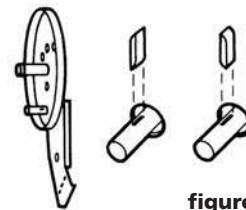

figure 7
- Remove both pawls from the rectangular slots in reel shaft and reverse their positions (refer to figure 7).